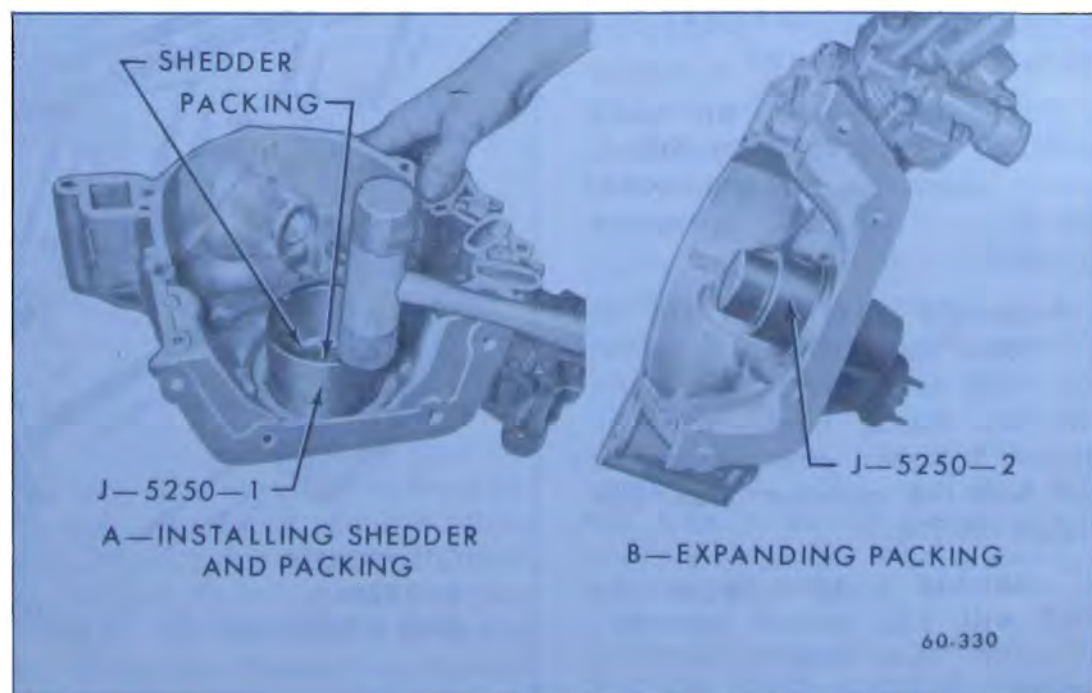

Figure 60-334—Installing Crankshaft Oil Seal
2. Work new packing into the shedder, then drive shedder into recess in timing chain cover, using Installer J-5250-1. See Figure 60-334, View A.
3. Push Packing Expander J-5250-2 through the seal to expand the packing into place and size the opening for the crankshaft. See Figure 60-334, View B. Apply a light coat of vaseline to the packing.